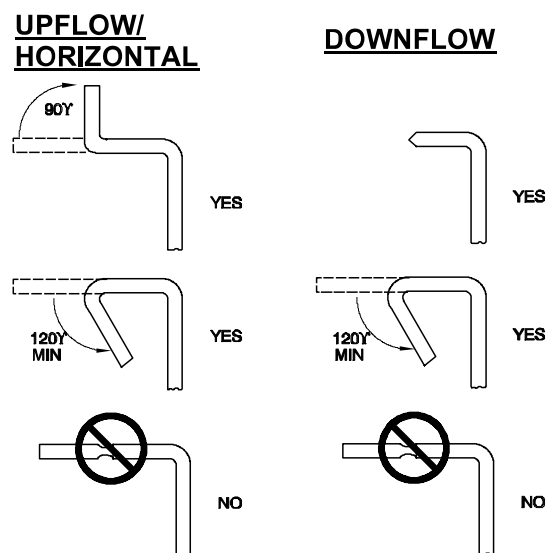

Fig. 17 – Duct Flanges
**NOTE:** It is required that the perforated supply-air duct flanges be completely folded over or removed from furnace when installing the furnace on a factory-supplied cased coil or coil box. To remove the supply-air duct flange, use wide duct pliers or hand seamers to bend flange back and forth until it breaks off. Be careful of sharp edges, see Fig. 17.
Connect supply-air duct to flanges on furnace supply-air outlet. Bend flange upward to 90° with wide duct pliers, see Fig. 17. The supply-air duct must be connected to ONLY the furnace supply-outlet-air duct flanges or air conditioning coil casing (when used). DO NOT cut main
Connect supply-air duct to supply-air outlet on furnace. Bend flange inward past 90° with wide duct pliers, see Fig. 17. The supply-air duct must be connected to ONLY the furnace supply outlet or air conditioning coil casing (when used). When installed on combustible material, supply-air duct must be connected to ONLY the factory-approved accessory subbase or a factory- approved air conditioning coil casing. DO NOT cut main furnace casing to attach supply side air duct, humidifier, or other accessories. All accessories MUST be connected to duct external to furnace casing.